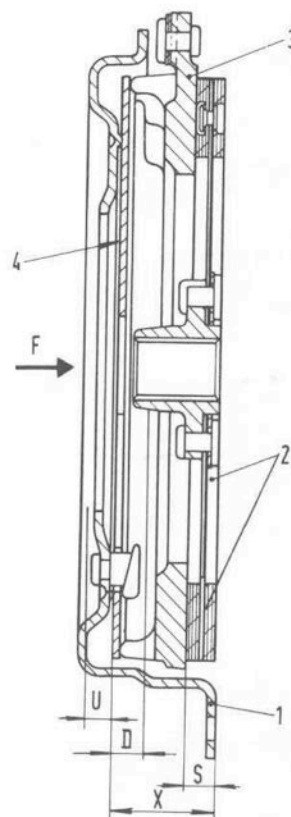

FIG 5:5 Section through clutch assembly showing checking points
This is shown in section in FIG 5:2 and in component form in FIG 5:4. Referring to FIG 5:4 it can be seen that release sleeve 10 which carries the release bearing is retained against fork 11 by spring clips 12. The fork is secured to shaft 5. A lever on the shaft is external to the clutch casing and is connected by cable 3 to clutch pedal 20. To service the mechanism, remove the clips and pull off the release sleeve. Remove bolt 4 and pull out
**Key to Fig 5:5**